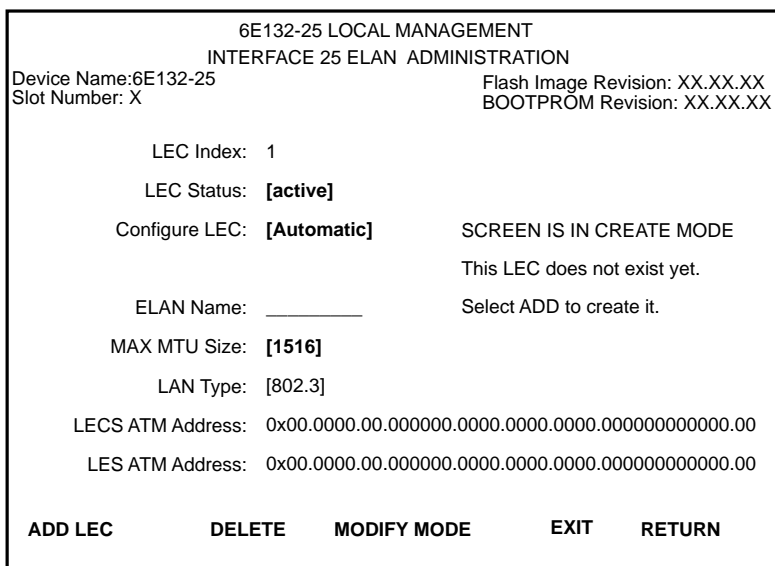

Figure 3-9 The LEC Administration Screen
2. Press ENTER; the LEC Administration screen, Figure 3-9, displays.